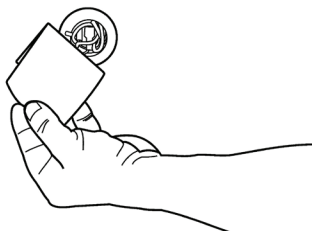

figure 15
1. Carefully remove the tape covering the Blower Outlet (figure 15).